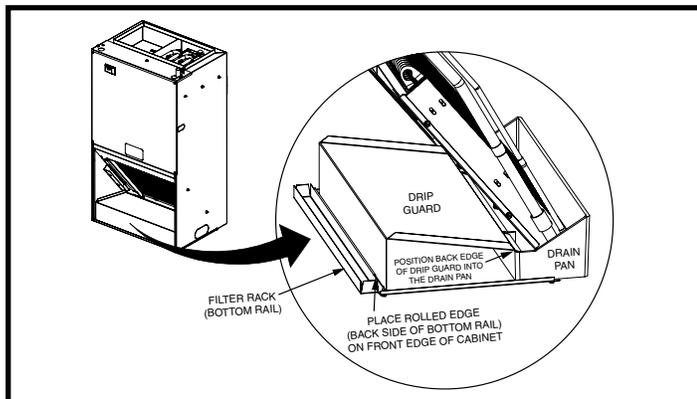

Figure 1. Drip Guard Folded
5. Install the rolled edge of the bottom rail over the front edge of the cabinet. Make sure the bottom edge of the cabinet is straight and the bottom rail is seated firmly on the cabinets edge. See Figure 1.